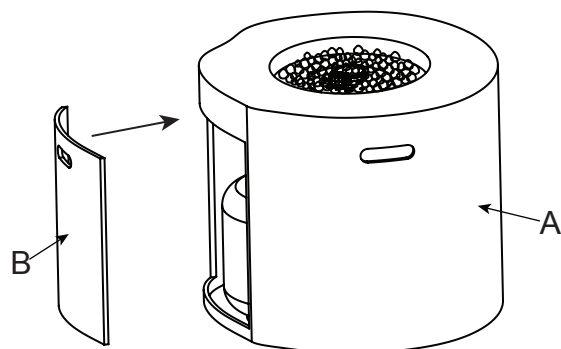

Figure 4
2. Attach the door (B) to fire table (A) tenderly (see Figure 4).